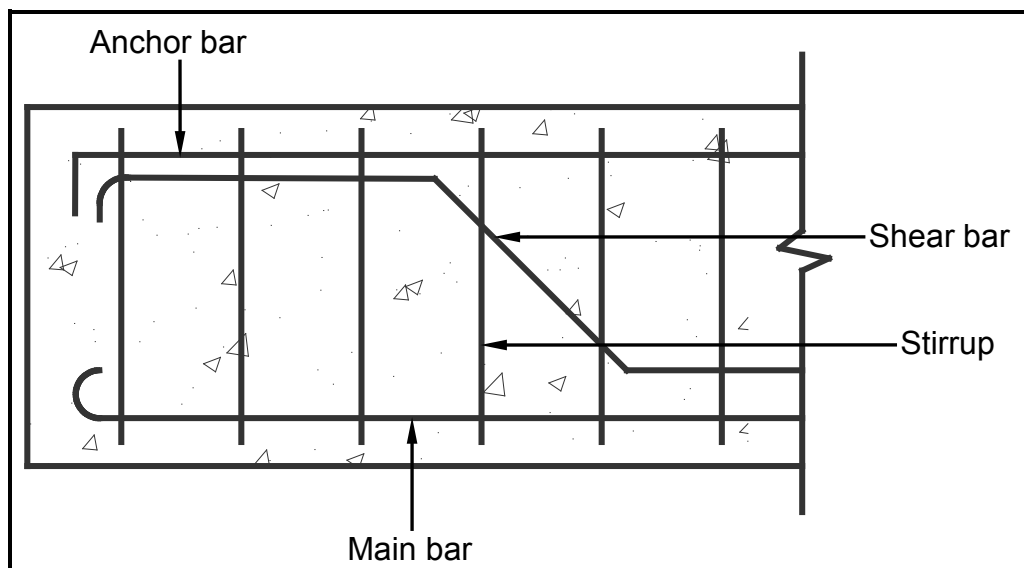

FIGURE 2.7
2.7 FIGURE 2.7 below shows a section through a reinforced concrete beam.